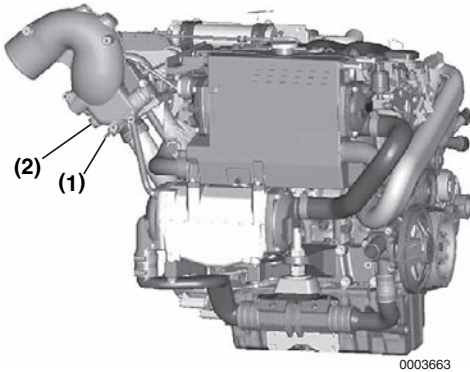

Figure 2
5. **Engines having the optional high-rise exhaust elbow:** Open drain cock (**Figure 2, (1)**) and allow water to drain. Remove and inspect zinc anode (**Figure 2, (2)**).